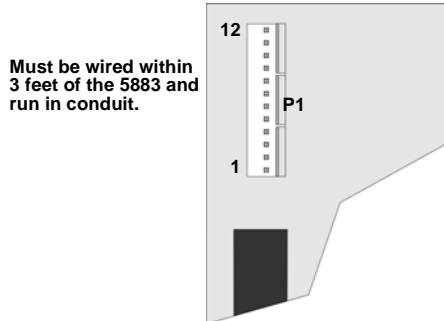

**Figure 3: Flexput Auxiliary Power Output**
1. Connect the aux power wires to the Flexput terminals using “X” terminals as positive, and “O” terminals as negative power. See Figure 3.